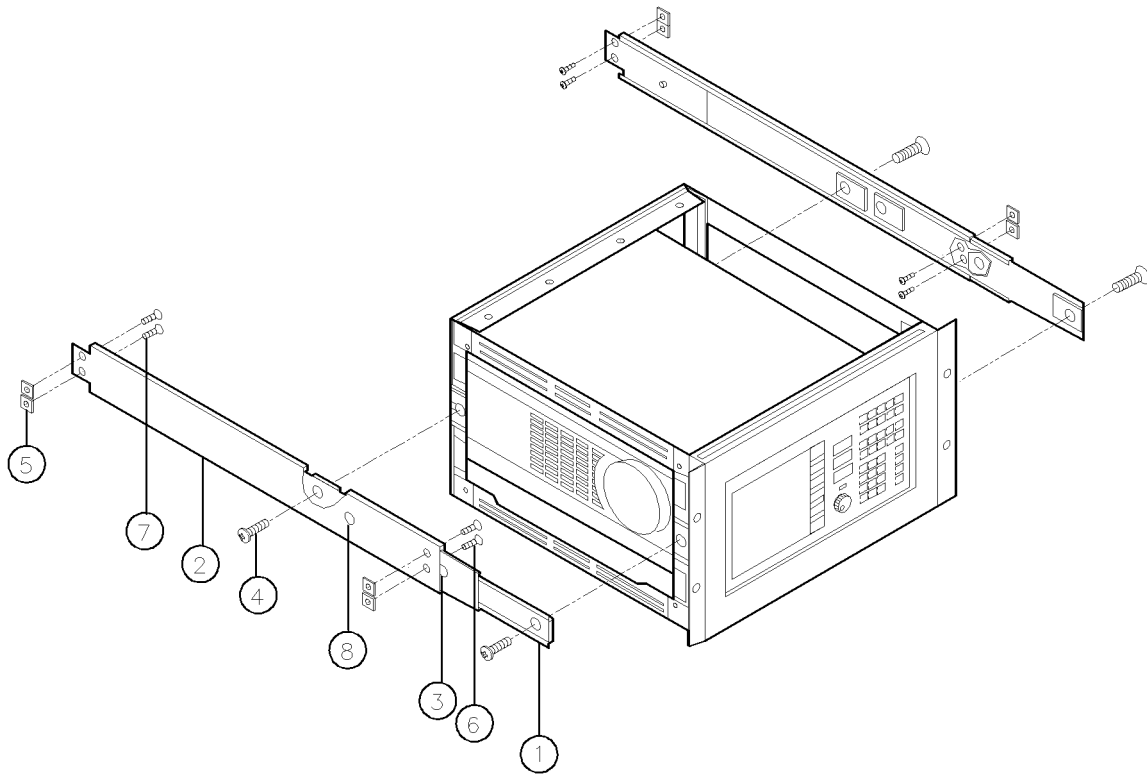

Figure 5. Installing the Rack Slide Kit
3. Separate the inner slide member ① from the outer slide member ② by pressing release button ③ and pulling the inner slide member out. See Figure 5. Due to space considerations, Figure 5 does not show the rack slide extended to its full length.
4. Attach an inner slide member to each side of the rack mount frame using two M5 × 0.8 × 14 mm pan-head screws per side. See ④ in Figure 5.
5. Insert two unistrut nuts ⑤ in each of the four vertical columns of the systems rack.
6. Compress each outer-slide member to its shortest length, revealing the holes for screws ⑥. Release button ⑧ may have to be pressed.
7. Attach an outer slide member to each side of the systems rack using two M4 12 mm flat-head screws ⑥ in the front and two M4 12 mm pan-head screws ⑦ in the rear.